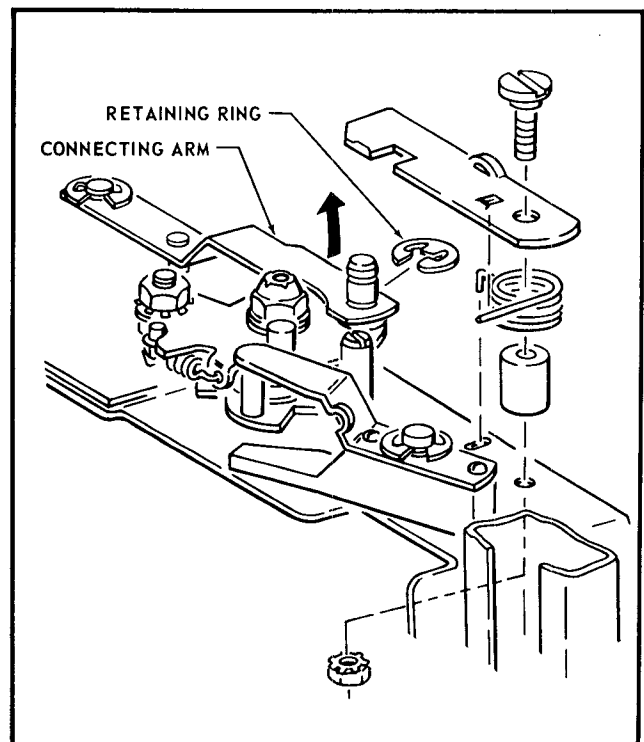

FIGURE 11
- B. Remove the Retaining Ring which attaches the Connecting Arm Assembly to the Stud on the Rotor Plate from which the Return Spring was removed. See Figure 11.